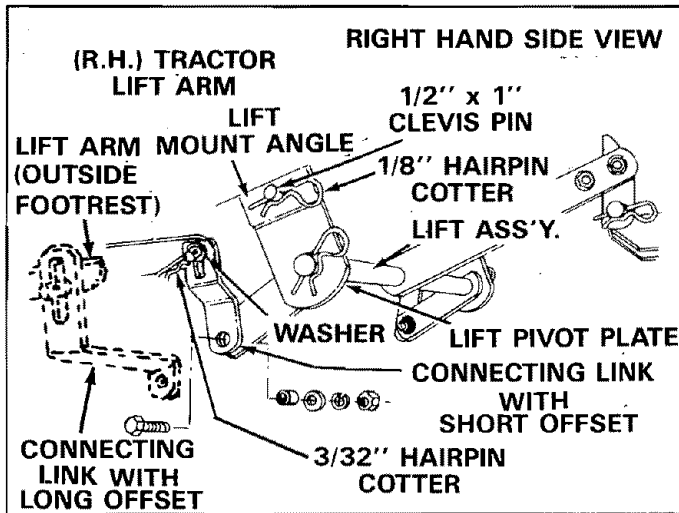

FIGURE 20
24. Raise right hand end of lift assembly to align upper hole in lift pivot plate with hole in lift mount angle. See figure 20.
25. Move tractor attachment lift lever forward. Secure connecting links (slotted end) to tractor lift arms (inside of left side and outside of right side) using flat washers and 3/32" (small) hairpin cotters. See figure 20 below.
26. Assemble connecting links to outside of each short arm of the lift assembly, using 3/8" x 1" hex bolts, pivot bushing and tighten securely with 3/8" flat washer, 3/8" lock washer and 3/8" hex nut on inside of short arms. See figure 20.
Use connecting link with long offset if (RH) lift arm is located to outside of footrest. See figure 20.